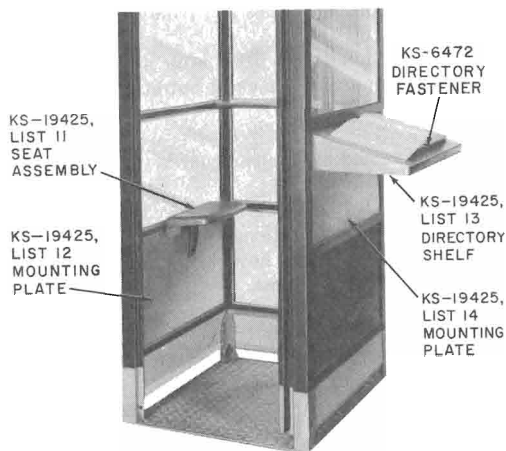

Fig. 12—KS-19425, List 11 Seat Assembly, KS-19425, List 13 Directory Shelf and Associated Mounting Plates
- 2.21** Refer to Fig. 12.
(c) **KS-19425, List 13 Directory Shelf (Fig. 12).**